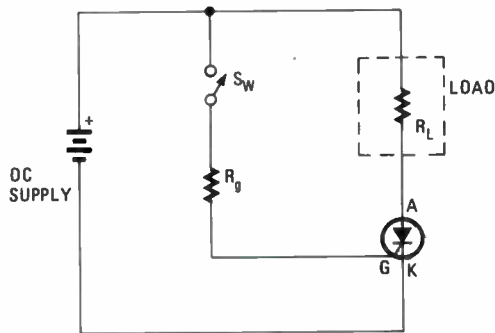

**Fig. 2—This is the commonly used symbol for the SCR. Note that current flow is restricted to only one direction.**
Most FM front-end circuits have two or three separate transistors. You may find one IC component serving as FM-RF oscillator and mixer. Refer to Fig. 2. Take critical voltage
**Fig. 2—**Test the FM transistors with your multimeter as you would the AM section. Measure for correct voltage on the FM IC if there is one. Oldies still use transistors. Replace the FM front-end IC when the AM stations are normal. IC1 (FM-RF, oscillator, mixer) was replaced in a Sanyo MG-25 headphone radio with a TA-7358P IC with a dead front end. That type of part is available from commercial parts distributors.
Figure 2 shows the schematic symbol ordinarily used to represent an SCR. Sometimes you will see that symbol without a circle around it. The cathode, anode, and gate leads are labelled.